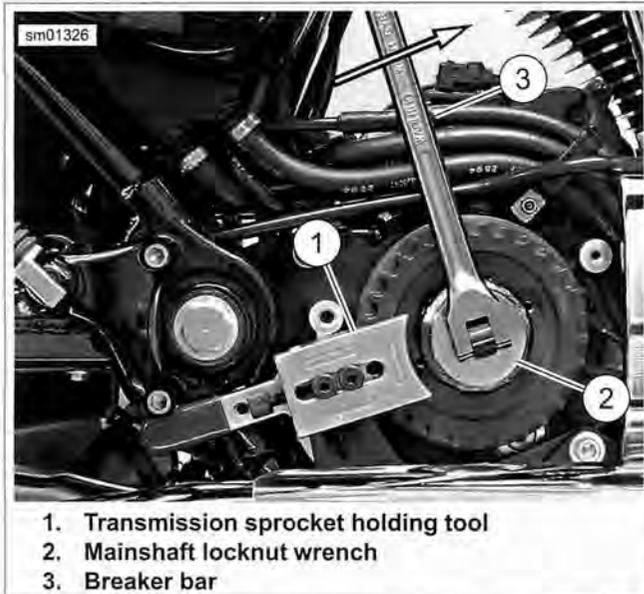

Figure 5-104. Removing Transmission Lock Nut: All Models (XL Model with Passenger Footrests Shown)
- See Figure 5-104. Use TRANSMISSION SPROCKET HOLDING TOOL SET (Part No. HD-46282-A) (1), MAINSHAFT LOCK NUT WRENCH (Part No. HD-46288) (2), and a breaker bar (3) to remove transmission sprocket nut. Place handle of sprocket holding tool under bottom of footrest bracket. Turn nut **clockwise** to loosen and remove it.